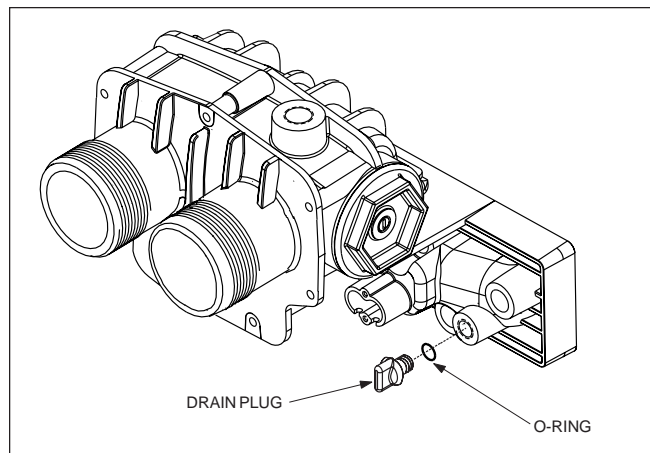

Figure 30. Draining the Heater
4. Remove the drain plugs from both the inlet/outlet header and the return header (see Figure 30 and Sections 11.3 and 11.4, Exploded Views), and completely drain the heater before the first frost.